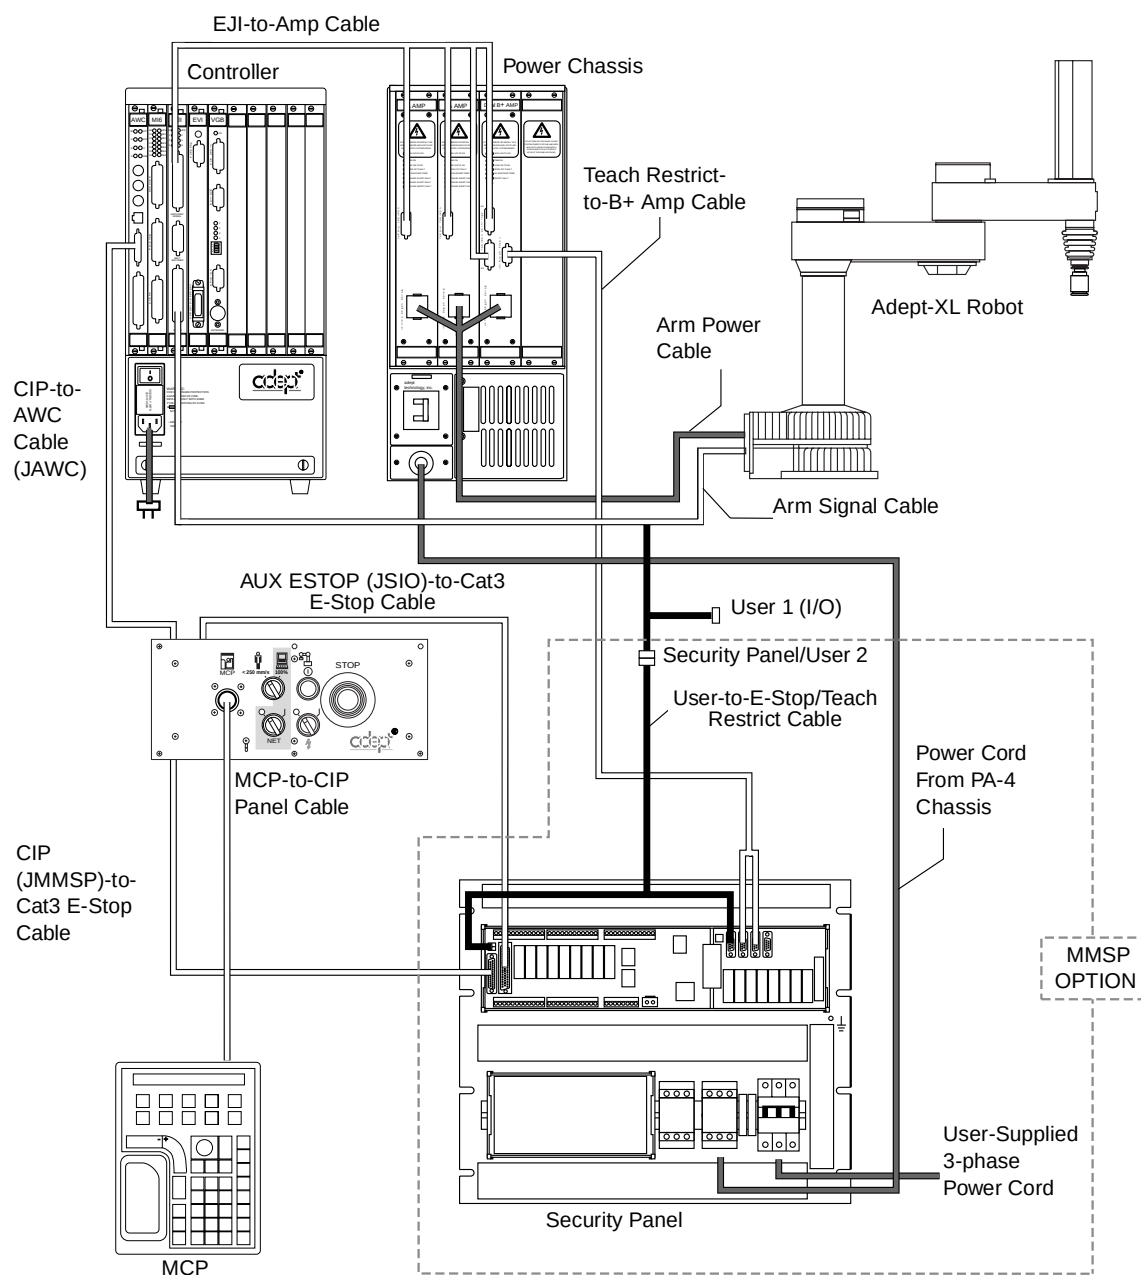
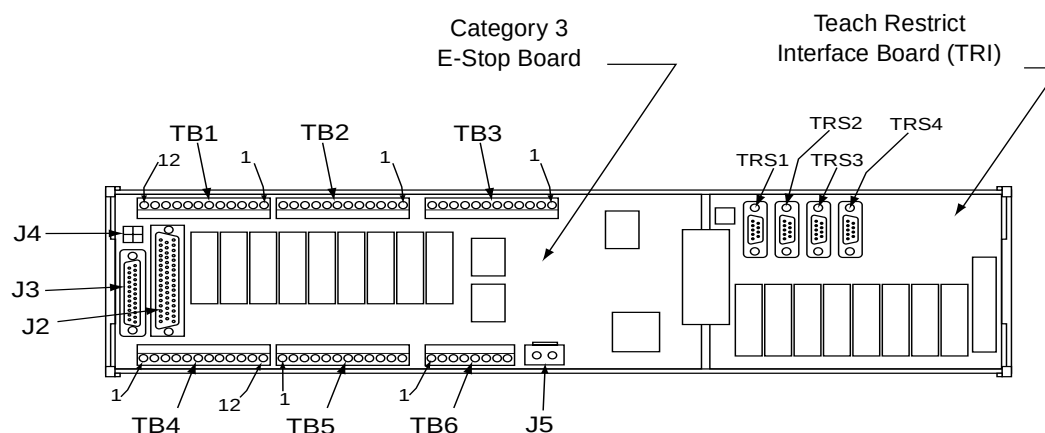
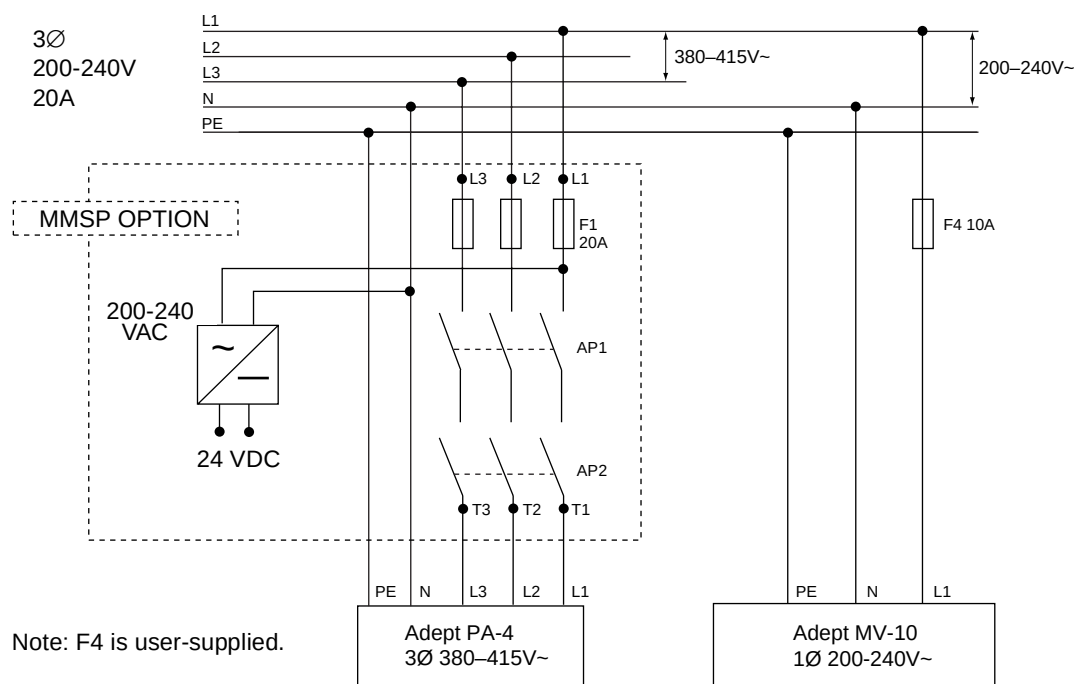

Figure 5-1. Components of a Category 3 E-Stop System
Figure 5-3. Connectors on the Control Rail
Figure 5-10. Typical 380-415 VAC Connection for MMSP System
The emergency stop system of the Manual Mode Safety Package (MMSP) has several interconnected components (see Figure 5-1). The Security Panel controls the Category 3 E-Stop system. It works together with the AUTO/MANUAL operating mode key switch on the CIP.
Installation procedure for the CIP-to-Cat3 E-Stop Cable (see Figure 5-1):
2. Connect the male plug of the CIP-to-Cat3 E-Stop cable to the connector J3 on the Category 3 Emergency Stop board. (See Figure 5-3 on page 98.) Tighten the two captive screws securely. Connect the female connector of the cable to the connector JMMSP on the CIP. Tighten the two captive screws securely.
Installation procedure for the User-to-E-Stop/Teach Restrict cable (see Figure 5-1 and Figure 5-3):
Installation procedure for the Teach Restrict-to-B+ Amp cable (see Figure 5-1 and Figure 5-3):
7. Reinstall the power chassis power cord at the Security Panel according to the 200-240VAC section in Table 5-11 on page 106 (also see Figure 5-1 on page 96).
7. Reinstall the power chassis power cord at the Security Panel according to the 380-415 VAC section in Figure 5-10 on page 106 (also see Figure 5-1 on page 96).